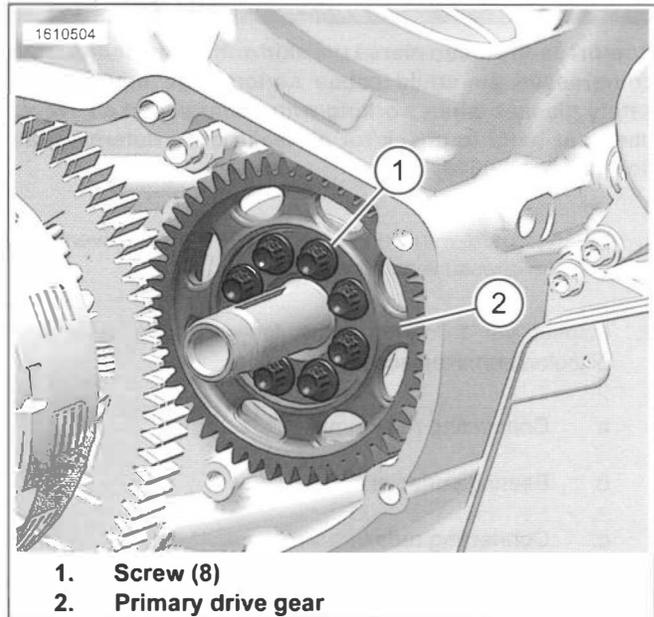

Figure 4-108. Primary Drive Gear
1. See Figure 4-108. Remove primary gear.
- a. Remove screws (1).
- b. Remove primary gear (2).
2. See Figure 4-108. Install primary gear.
- a. Install primary gear (2) with shallow end facing the crankcase.
- b. Install screws (1). Tighten in criss-cross pattern.